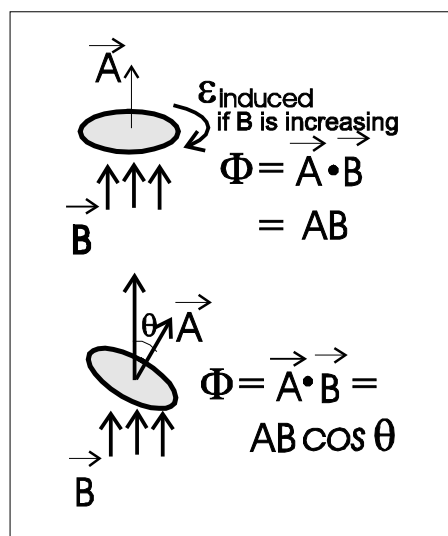

Figure 1: Magnetic flux through a loop of area A .
Φ is the *flux* of magnetic field that flows through the circuit and is given by the dot product of the magnetic field and the area of the circuit. Figure 1 illustrates the concept of flux. Measuring the flux of a magnetic field is very much like measuring the flow of water through a pipe. In this pipe, flux is a measure of the amount of water flowing through the area at the end of the pipe, per unit time. For the case of a current carrying loop of cross-sectional area A in a uniform magnetic field \vec{B} perpendicular to the loop, the flux is just the dot product $\vec{B} \cdot \vec{A}$. (*The vector \vec{A} is defined as perpendicular to the surface it describes.*)
- i. The amount of change in the overlap between the magnetic field and circuit loop. For example, imagine stretching the loop in Fig. 1 to increase its radius or, if the field is confined to some region of space, moving the loop into and out of this region.
Lenz’s Law is useful for understanding the direction of induced EMFs or currents. Lenz’s Law states that an induced current is always in such a direction as to oppose the motion or change causing it. This induced current will create a magnetic field, just as a normal current would. For example, if the magnetic field shown in Fig. 1 is upward and increasing with time, the induced current is in the direction shown in that figure; from the *right hand rule*, this will produce a magnetic field that points downward, thus opposing the change in field that created the induced current in the first place.
Even if we hold the magnetic field and the area of the coil constant, we can still change the flux and induce an EMF by changing the angle between the two. This is illustrated in Fig. 1. If the coil is spun at a constant angular velocity ω , starting with an initial orientation $\theta_0 = 0$, the flux is given by